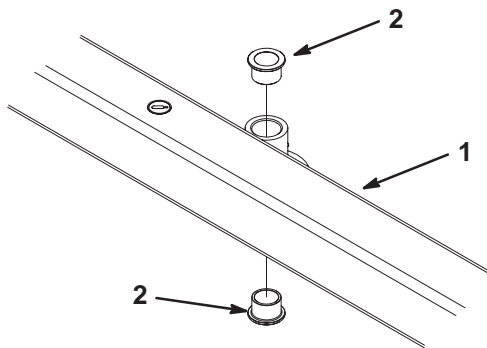

Figure 26
4. Insert pin punch into top or bottom of bumper and drive bushing out of tube (Fig. 26). Also drive other bushing out of bumper. Clean inside of bumper to remove any dirt.